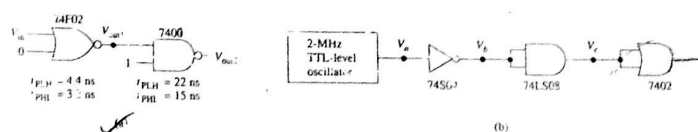

Figure P9-10
- Repeat Problem 9-9 for the circuit of Figure P9-10(a).
- Repeat Problem 9-9 for V_a , V_b , V_c , and V_d in Figure P9-10(b). (Use a TTL data book to determine the propagation delay times.)